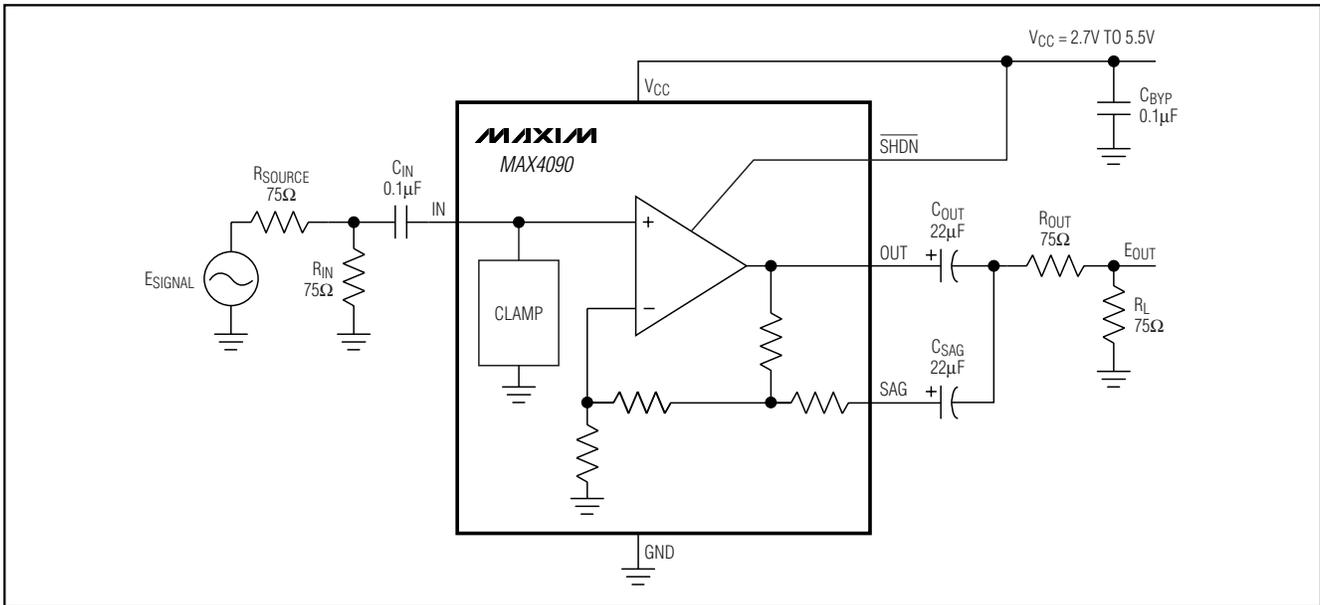

Figure 3. AC-Coupling the MAX4090
- 2) Two capacitors and 150Ω are connected between OUT, SAG, and ground (see Figure 3).
the gain, and creating a high-impedance node at the SAG output. This node is AC-coupled to the load in parallel with the normal output, as shown in Figure 3. This allows the use of two smaller capacitors ( $C_{OUT}$  and  $C_{SAG}$ ), typically 22μF, substantially reducing the size of the interface caps and their cost while retaining the low-frequency response.
The MAX4090's output is configured to support AC-coupling with minimal capacitance. This is called "sag correction." It refers to the improved bandwidth achieved by using two smaller capacitors to replace a single large capacitor shown in Figure 3.